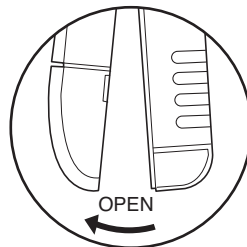

Figure 2
4. Gently pull the cover straight off the base. (See figure 2.)